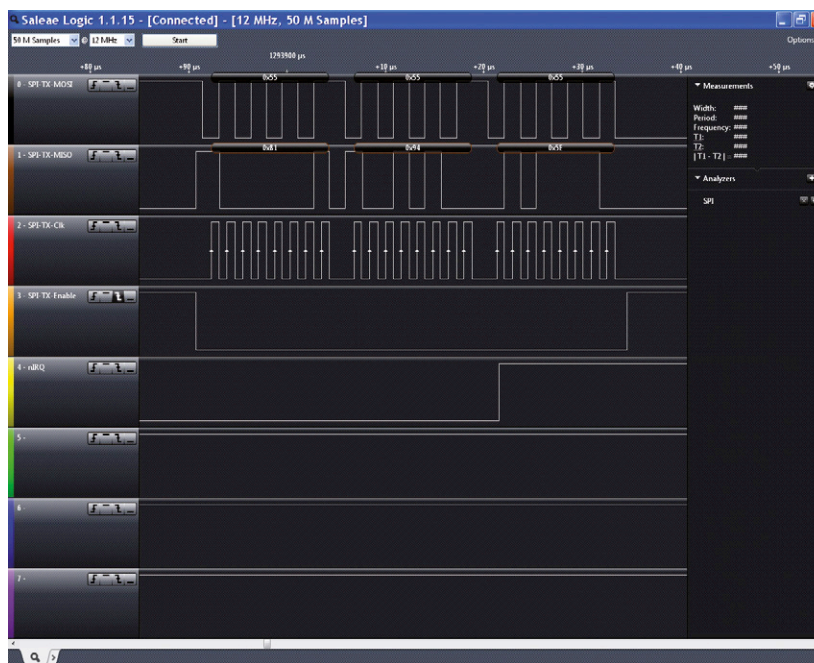

Figure 2. How the data bytes appear on a logic analyzer.
Let's take a closer look at the UI in **Figure 2**. Starting at the lower left, you see an icon that shows if the analyzer is
Figure 2. The NCSA's input is connected to a signal generator that's set to produce an amplitude-modulated (AM) signal. The PC application's UI is displaying the time plot (upper graph) of the signal and its frequency spectrum (lower graph). The 13-kHz carrier and the 1-kHz sidebands are clearly visible.
Finally, the UI provides a very powerful zoom in/out capability. An example of this is shown in the upper plot of Figure 2. This multilevel zoom capability allows